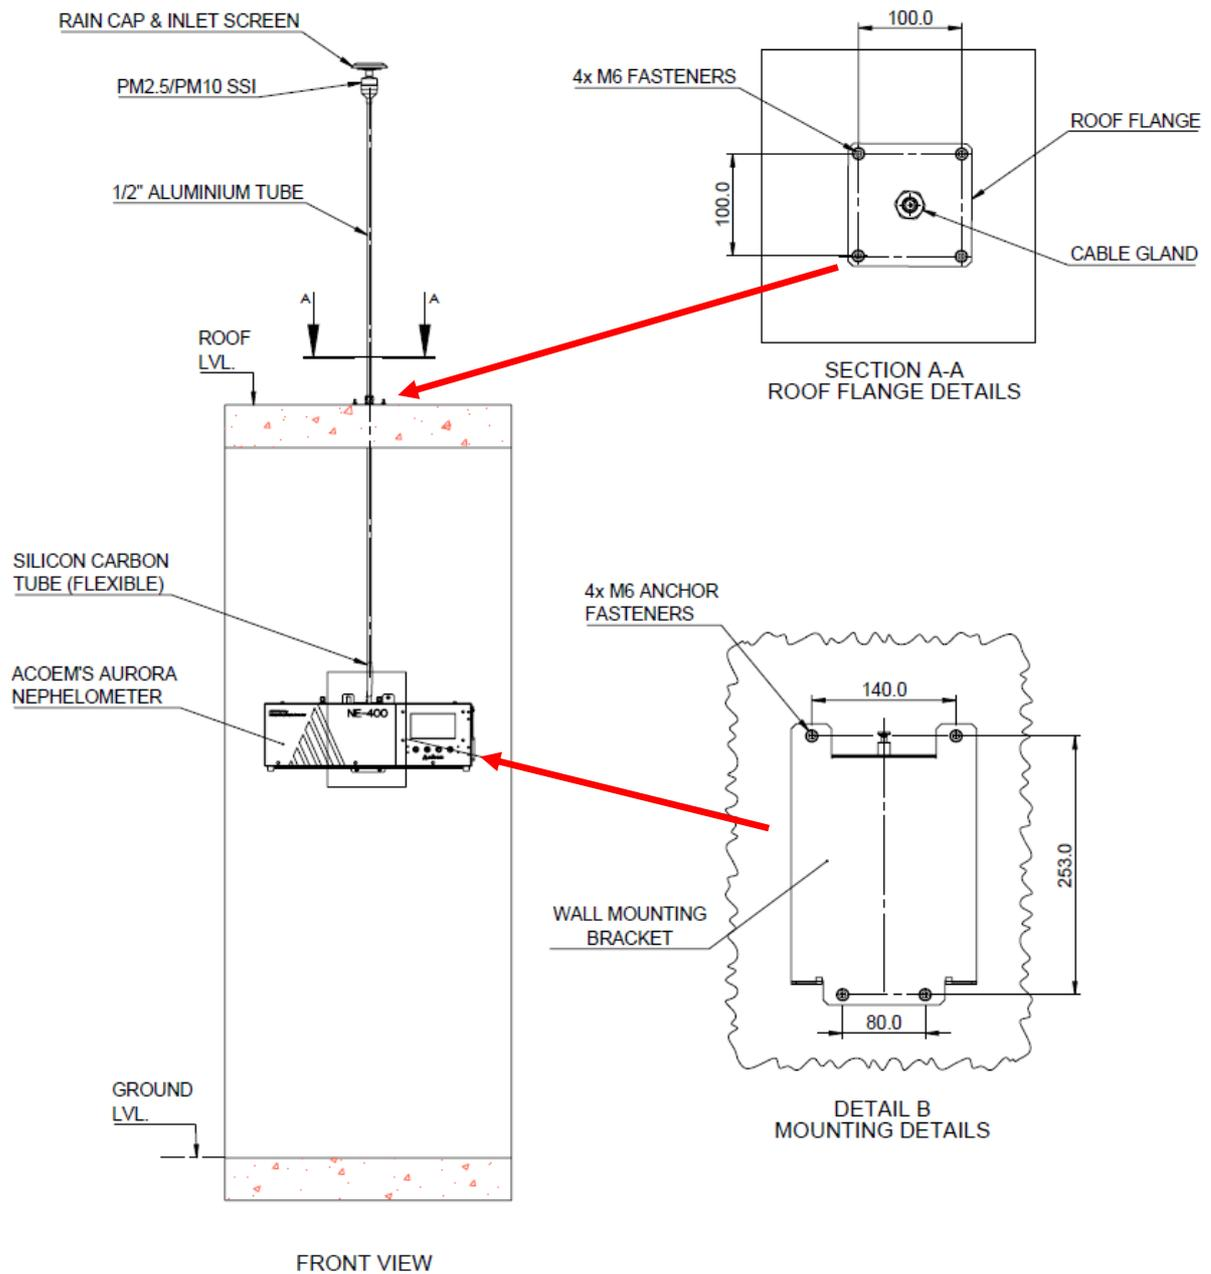
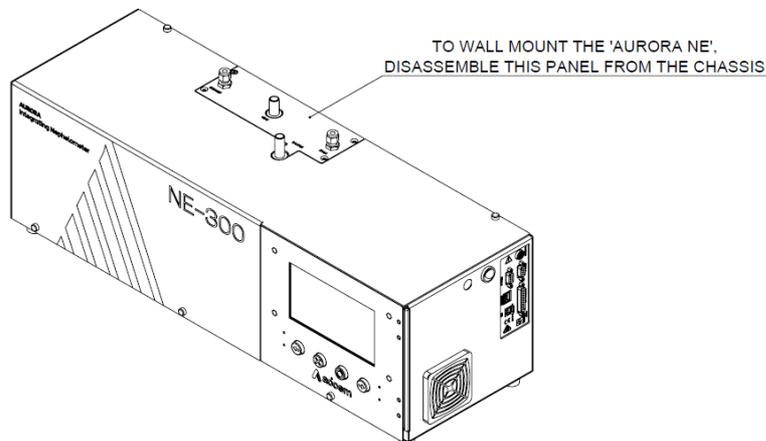

Figure 36 – Sample inlet Installation
Figure 37 – Wall Mount Bracket Installation Step 1
The sample inlet is the most important connection to the Aurora NE series nephelometer. Every installation is different. Figure 36 shows the ideal situation where the sample inlet is kept straight so that there are no changes in direction of the particulate sample. This is an example only that includes the wall mounting bracket, rain cap and insect screen, PM 2.5 size selective inlet, 2-meter aluminium tubing, roof flange and silicone tubing. Other variations may include longer flexible silicon tubing to offset the connection to the nephelometer. Not all installations will use the PM2.5 size selective inlet. Some installations will require the connection to a common sample inlet manifold that is connected to other instruments used for aerosol monitoring.
For the user-installed version (E010113), the anti-rotation panel will need to be changed. Proceed to step 1 in Figure 37 – Wall Mount Bracket Installation Step 1 Figure 36.
Step 1: Remove the four M5 CSC screws in the top of the anti-rotation panel and remove the panel. See Figure 36.